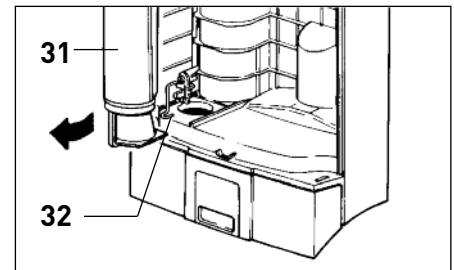

Figure 10
Changing the Micro-Hygiene Filter - Figure 10
3. Microfilter not properly inserted.	3. Lift safety lever and insert filter with vertical plastic ridge on filter facing you (see pg. 9, figure 10).